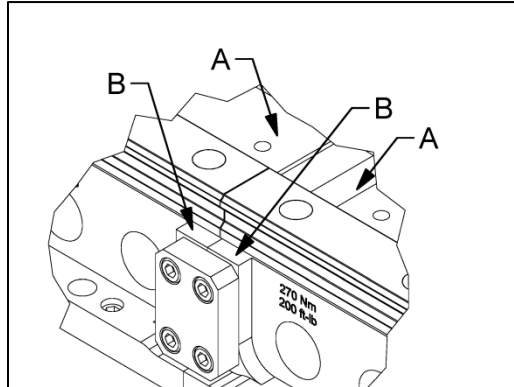

Figure 3
12. Attach a dial indicator with a magnetic base to one of the linear rails and check the alignment of the two "A" points, and the two "B" points as shown in Figure 3. The "A" points should be within 0.001 inch of each other, and the "B" points should also be within 0.001 inch of each other. If they are not, loosen all the bolts and repeat steps 2-11.
19. Attach a dial indicator with a magnetic base to one of the linear rails and check the alignment of the two "A" points, and the two "B" points as shown in Figure 3. The "A" points should be within 0.001 inch of each other, and the "B" points should also be within 0.001 inch of each other. If they are not, repeat steps 14-18.